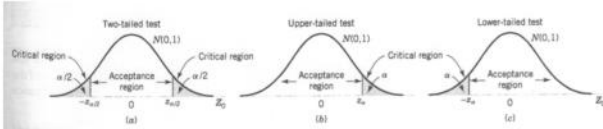

FIGURE 9.11
- The alternative hypotheses and corresponding critical value(s) are shown in figure 9-11 on page 209